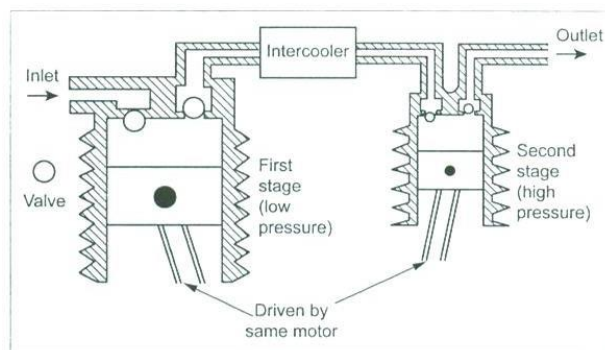

Fig.4.4 Two stage Compressor
- **Multi stage cylinder:** When the compression of air from the initial pressure to the final pressure is carried out in more than one cylinder then the compressor is known as multi stage compressor as shown in fig.4.4.